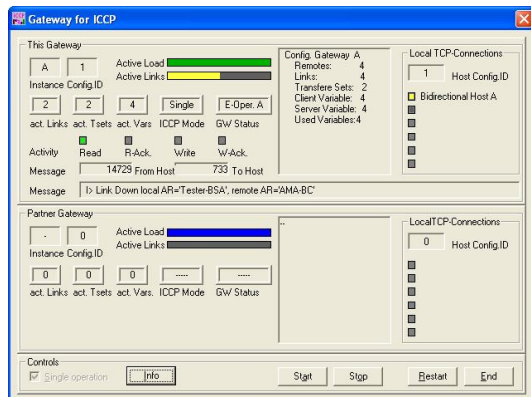

Figure 1: AMA-Gateway, graphical user interface
- The AMA-Gateway is designed as a typical server application, usually working in the background without the need of an operator. However for checking purposes or to analyze problems a dialog window with all necessary information is available, see figure 1. Also logging into a file is possible.